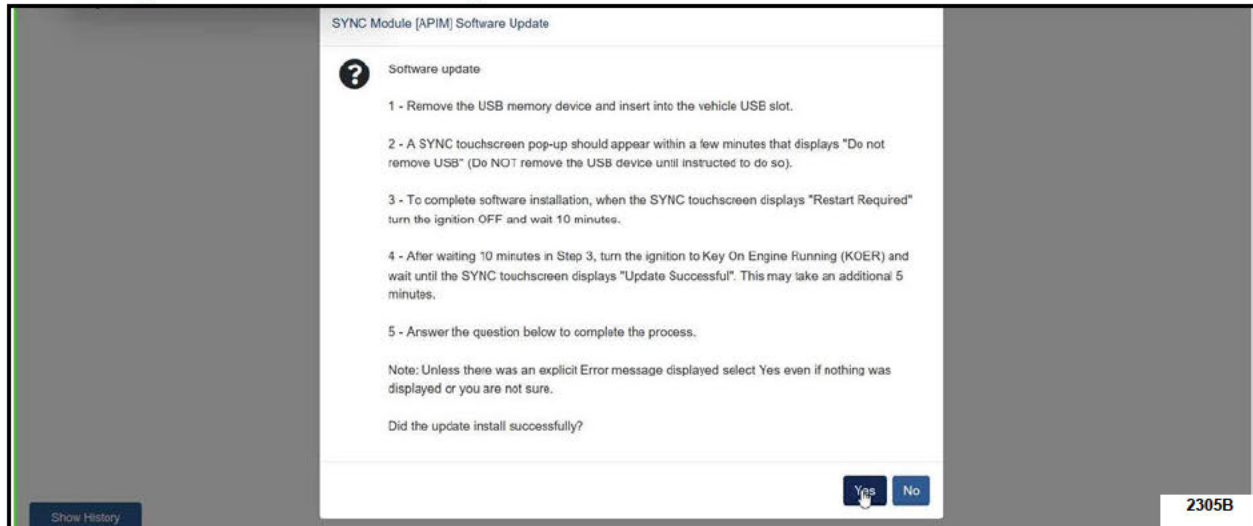

FIGURE 4
13. Return the USB thumb drive to the FDRS and follow the on-screen prompts carefully until the following screen is reached. See Figure 4.
14. Complete Steps 1 and 2 as shown on the screen in Figure 4. **For Step 3**, to complete the software installation, when the SYNC touchscreen displays "Restart Required" turn the ignition OFF, **open and close the driver's door**, and wait 10 minutes.